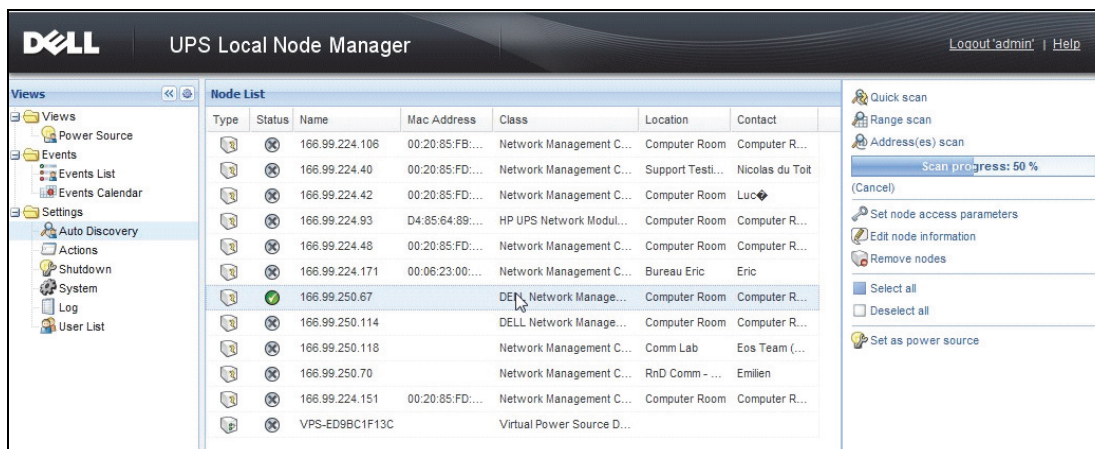

Figure 4. Quick Start - Auto Discovery Page
The discovered UPS connected through an RS-232 or USB connection is automatically assigned as the Power Source. The Status icon is automatically green  in the Node List page (see Figure 4).
The discovered Networked UPSs are not automatically assigned as the Power Source. You must select the node and click **Set as Power Source**. The Status icon becomes green  in the Node List page (see Figure 4).
- The discovered nodes are displayed using **Settings > Auto Discovery** (see Figure 4).